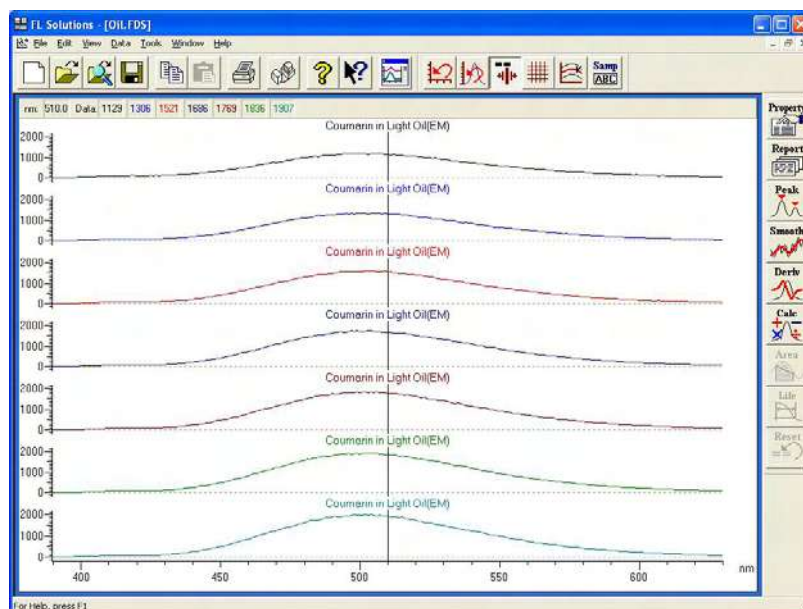

Fig. 8-20
- **Stack** : Spectra are displayed separately in the vertical direction. (Refer to Fig. 8-20.)